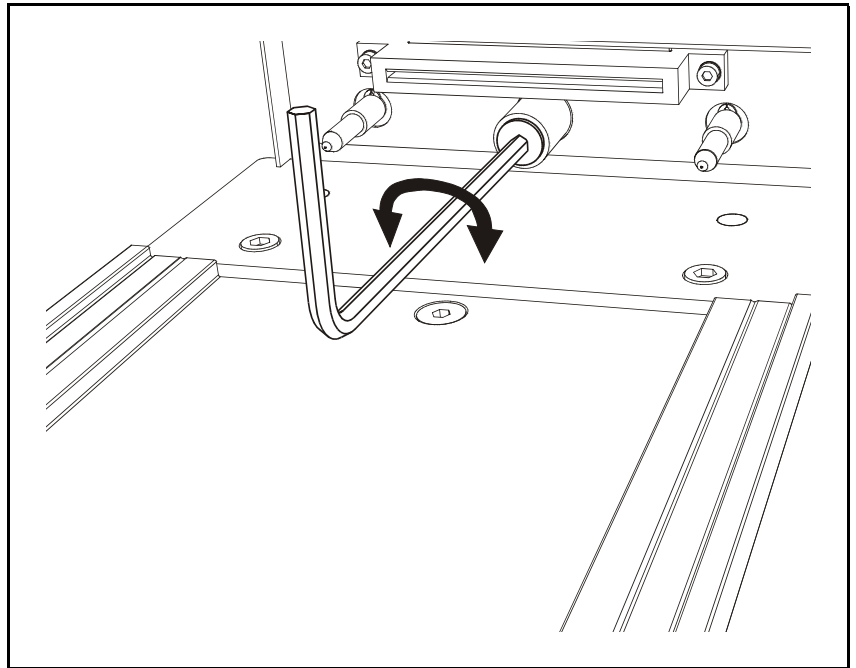

Figure 12-1. Unscrew the Stop Screw
5. If the centermark is off in the Y direction adjust the slot position. Start by unscrewing the stop screw, see Figure 12-1.